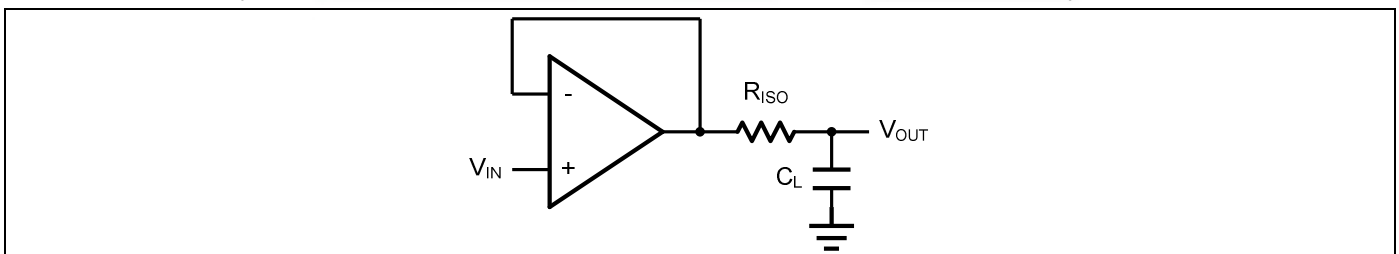
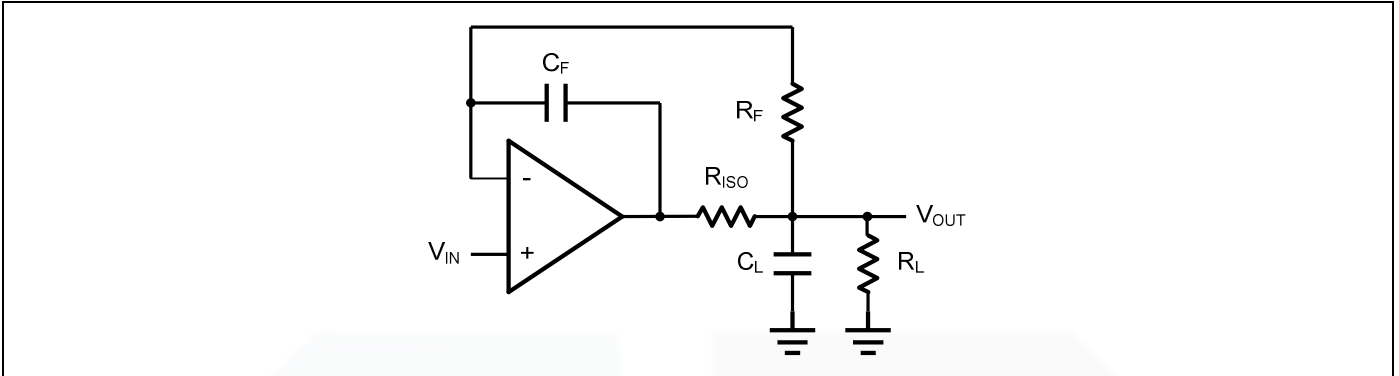

Figure 2. Indirectly Driving a Capacitive Load Using Isolation Resistor
Figure 3. Indirectly Driving a Capacitive Load with DC Accuracy
The GS321 family is optimized for bandwidth and speed, not for driving capacitive loads. Output capacitance will create a pole in the amplifier's feedback path, leading to excessive peaking and potential oscillation. If dealing with load capacitance is a requirement of the application, the two strategies to consider are (1) using a small resistor in series with the amplifier's output and the load capacitance and (2) reducing the bandwidth of the amplifier's feedback loop by increasing the overall noise gain. Figure 2. shows a unity gain follower using the series resistor strategy. The resistor isolates the output from the capacitance and, more importantly, creates a zero in the feedback path that compensates for the pole created by the output capacitance.
The circuit in *Figure 3* is an improvement to the one in *Figure 2*. R_{F} provides the DC accuracy by feed-forward the V_{IN} to R_{L} . C_{F}